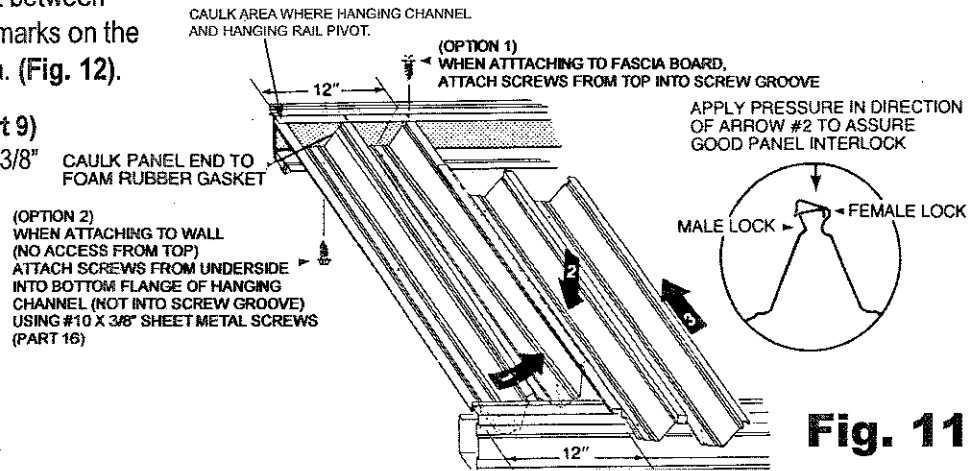

Fig. 11
- F.** Install second panel as shown (Fig. 11) following the directions of the arrows in numerical order.
- H.** See (Fig. 11) and fasten first panel (Part 9) at hanging channel (Part 1) with # 10 x 3/8" sheet metal screws (Part 16). Fasten first panel at front fascia thru prepunched holes into front fascia. (Fig. 9).
- I.** Install third panel (Part 9) in same manner as second panel (Part 9). Fasten second panel (Part 9) in same manner as first panel. Caulk panel ends to foam rubber gasket. (Fig. 11).
## Installation of roof panels (Step 4 H...Figure 11) ....Helpful Tips!!!